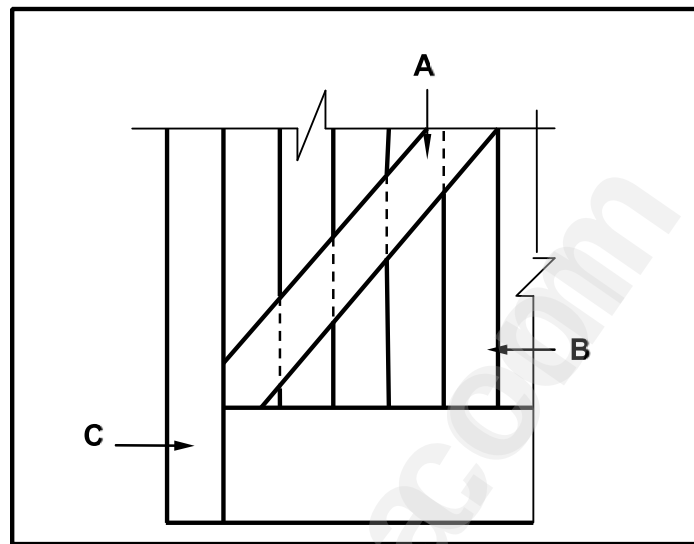

FIGURE 6.8
- 6.8 FIGURE 6.8 below shows the bottom inside corner of a door. Answer the questions that follow.